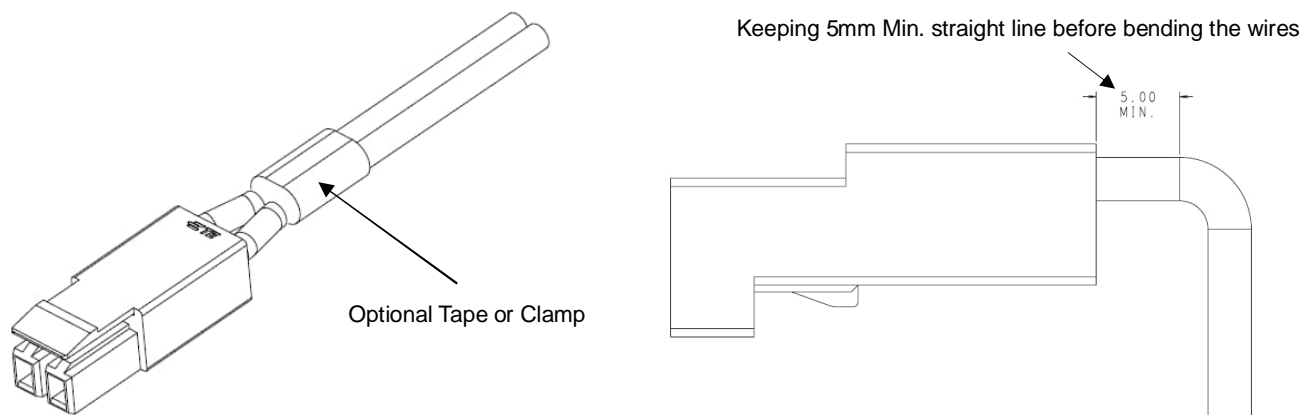

Figure 4
4. Apply optional approved flammability rated tape or clamp to organize the wire. Please keep at least 5mm long straight line before bending the wires, See Figure 4.